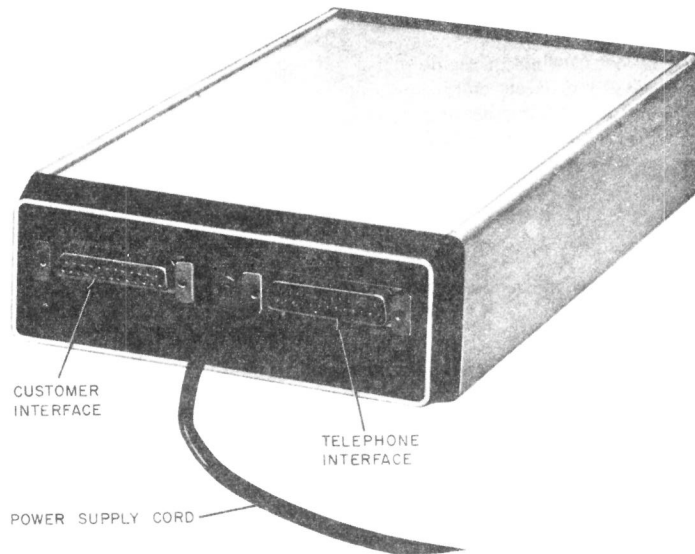

Fig. 3—Data Set 202T-Type, Rear View
**2.07** The housing has two interface connectors and a power cord at the rear of the set (Fig. 3). One connector is a KS-19087-L6 type and provides the digital interface leads to the customer-provided terminal equipment. The other connector is a KS-19088-L22 type and provides the interface connections for the telephone network. The power cord is a 4-conductor, spade-ended type.